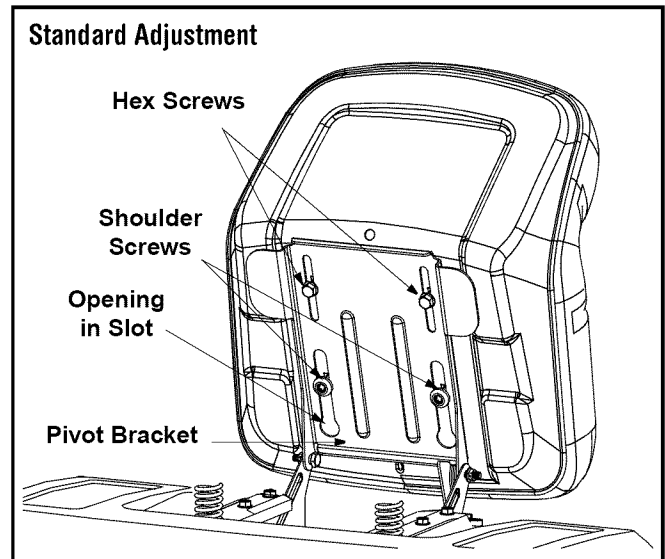
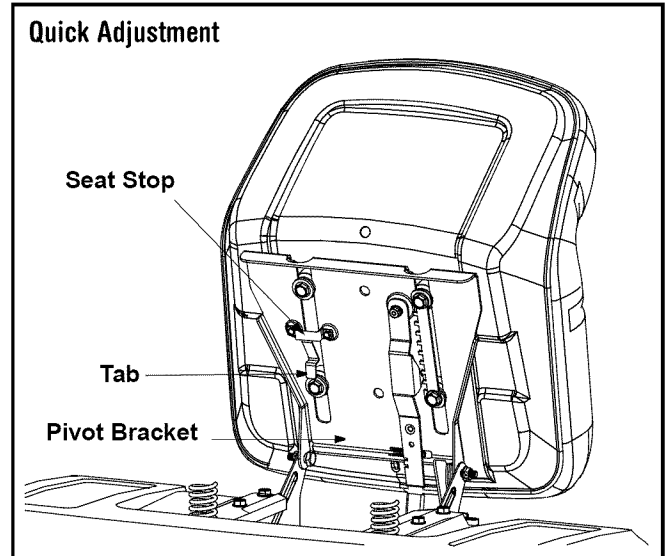
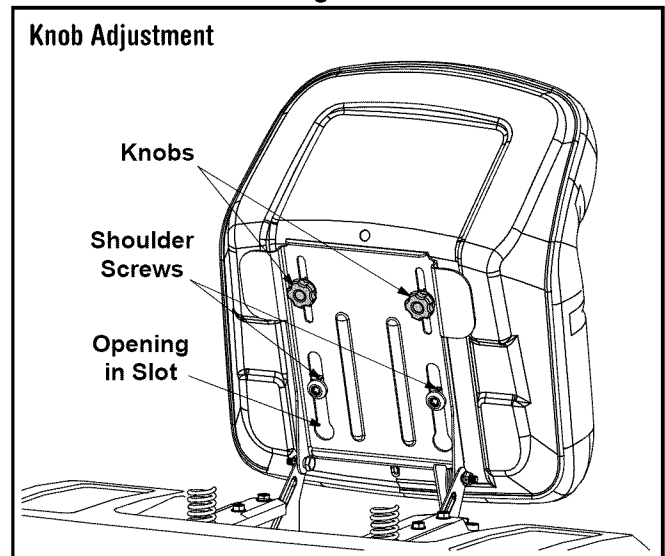

Figure 3
Figure 4
Figure 5
Refer to Figure 3, Figure 4 and Figure 5 to identify which your tractor's seat style and follow applicable instructions below.
1. Position the shoulder screws (found on the base of the seat) inside the slot openings in the seat pivot bracket. Figure 3.
3. Select desired position for the seat, and secure with the two hex screws removed earlier. See Figure 3.
NOTE: If your seat was shipped mounted backwards on the seat pivot bracket, pull out the tab found on the seat stop and hold it open while sliding the seat off the seat pivot bracket. See Figure 4.
2. Slide seat in until front seat spacer engages the seat stop. See Figure 4.
1. Position the shoulder screws (found on the base of the seat) inside the slot openings in the seat pivot bracket. Figure 5.
3. Select desired position for the seat, and secure with the two knobs removed earlier. See Figure 5.